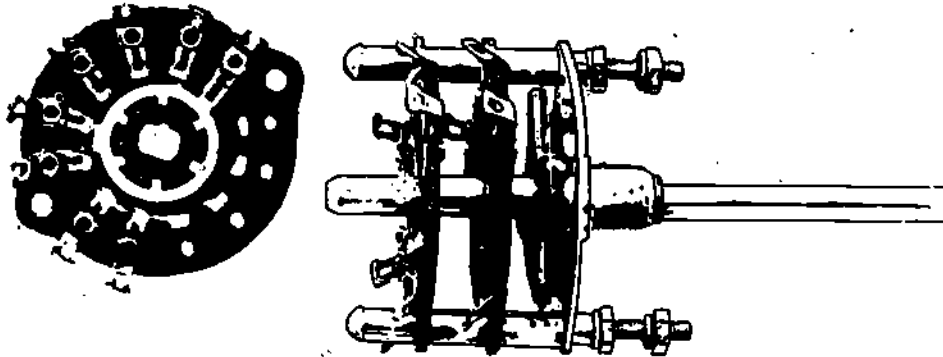
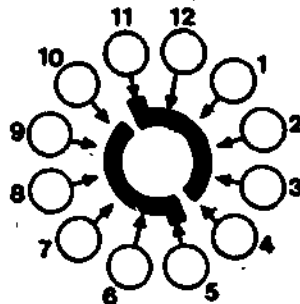

Figure 1
Figure 3
The wafer rotary switch is usually several separate switches linked (ganged) together. Figure 1 shows a typical wafer rotary switch. Notice the current path formed by the extended terminal, contact ring, wiper arm (part of the contact ring) and the short terminal touching the wiper arm.
On most schematic diagrams the wafer rotary switch is shown in one position only. You must mentally determine the current path through the switch for any of the other positions. Figure 2 is a schematic representation of the wafer switch shown in Figure 1. The conduction path for the switch position shown is from terminal 1 through the contact ring to terminal 4. If this switch were turned two positions counter-clockwise, the conduction path would now be from terminal 1 through the contact ring to terminal 2.
Figure 3 shows the schematic symbol for a slightly different type of wafer rotary switch. The basic construction of this switch is similar to the one in Figures 1 and 2. Note that the contact ring is split and there is a wiper and an extended terminal for each of the contact ring segments. There are actually two switches mounted on one wafer. Each switch operates the same as the switch in Figures 1 and 2, but there are fewer switch positions available. This switch in the position shown has a conduction path from terminal 12 through one half of the split conduction ring to terminal 11. There is also a conduction path from terminal 6 to terminal 5 through the other half of the conduction ring. If this switch were rotated two positions counterclockwise terminal 12 would be connected to terminal 9 and terminal 6 would be connected to terminal 3.
5. Study Figure 1, page 29/30 of this experiment, and answer...
(2) FREQUENCY SWITCH S2 is shown in the 10 KHz position. Will the astable multivibrator operate with the switch in this position? (Yes/No).
(3) The astable multivibrator will operate with switch S2 in
7. Check your answers to questions 5(2) and 5(3) by switching FREQUENCY SWITCH (S2) to its other positions and checking for a square wave output with the oscilloscope. If the results of this check agree with your answers, continue to step 8. If your answers do not agree, go back to Figure 1 and study the action of the FREQUENCY SWITCH.
- (1) The output frequency of the astable multivibrator
- (2) When you changed the setting of the FREQUENCY DIAL, you changed the
10. The output of the astable multivibrator (PC204-2, pin 10) connects to the input of the bistable multivibrator (PC204-3, pin 3). The bistable multivibrator has two outputs: one at pin 8 and one at pin 11. Using Figure 1 answer the following questions:
12. The third circuit used in this experiment is the monostable multivibrator (PC204-4). The components C1-4, CR1-4, CR2-4, R1-4 and R2-4 are not used. Pulse width switch (S3) and PULSE WIDTH DIAL (R22) are associated with the monostable multivibrator. Answer the following questions using Figure 1: